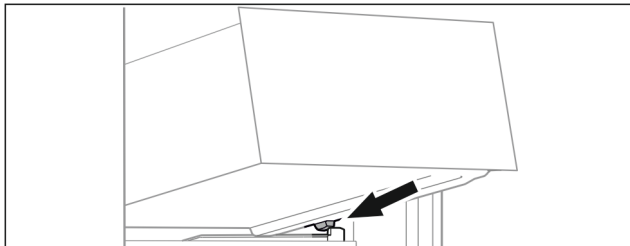

Fig. 93
- ▶ Place drawer at an angle behind the stoppers on the molded rib. (see Fig. 93)